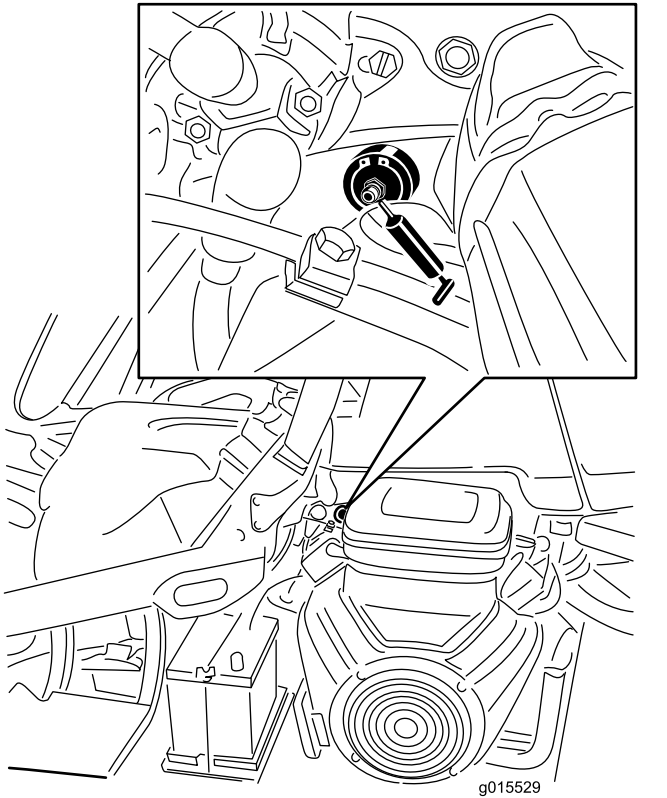

Figure 32
1. Wipe the grease fitting clean so that you do not force foreign matter into the bearing or bushing (Figure 32).